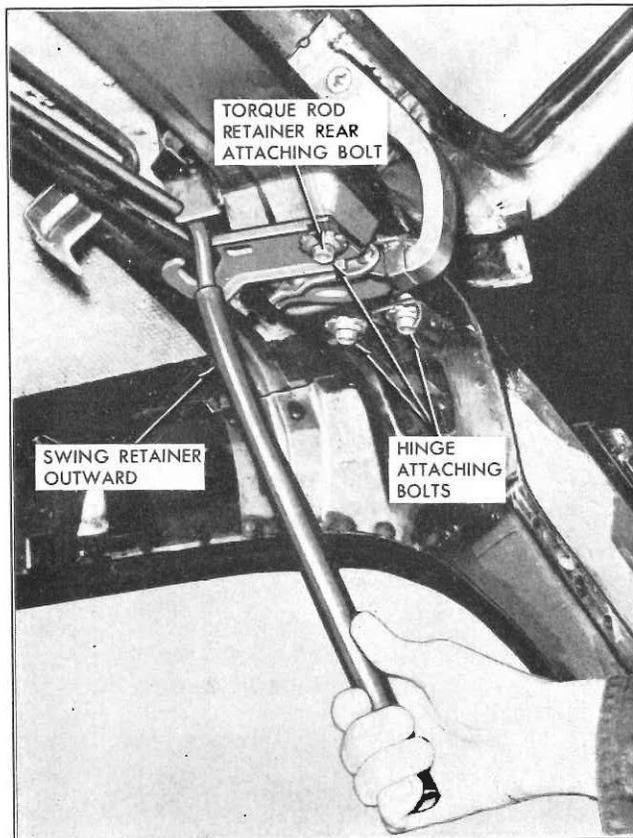

Fig. 4—Disengaging Torque Rod
- c. Using a suitable length of pipe over end of torque rod, release tension of torque rod from retainer (Fig. 4). While tension of torque rod is released from retainer, loosen retainer attaching bolts; then, release retainer. Loosen the two remaining hinge attaching bolts. Perform this operation at both right and left hinges.
3. Using a suitable length of pipe over end of torque rod, release tension of torque rod from retainer. While tension of torque rod is released from retainer, remove retainer front attaching bolt and loosen (no more than two turns) retainer rear attaching bolt; then, swing front end of retainer towards outside of body and release torque rod. (See Fig. 4).